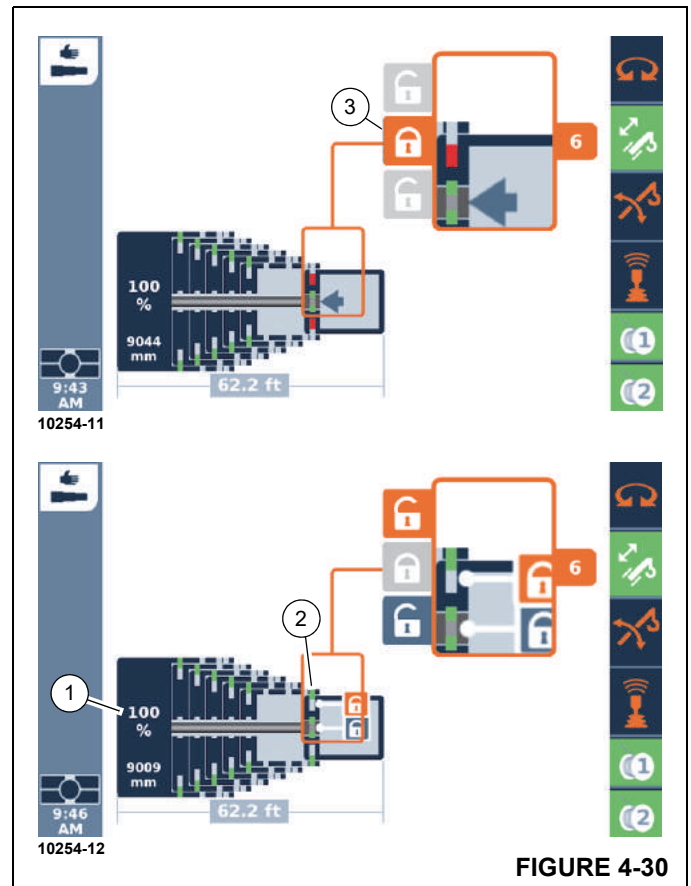

FIGURE 4-30
1. Telescope to the desired fixed length, e. g. telescopic section 6 to 100% (1, Figure 4-30).